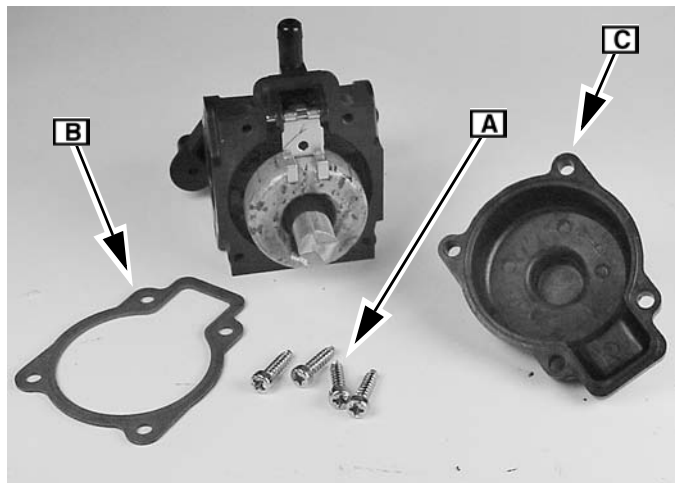

Fig. 41
5. Remove the four bowl retaining screws **A**, the bowl gasket **B**, and the bowl **C** (Figure 41). Discard the bowl gasket.